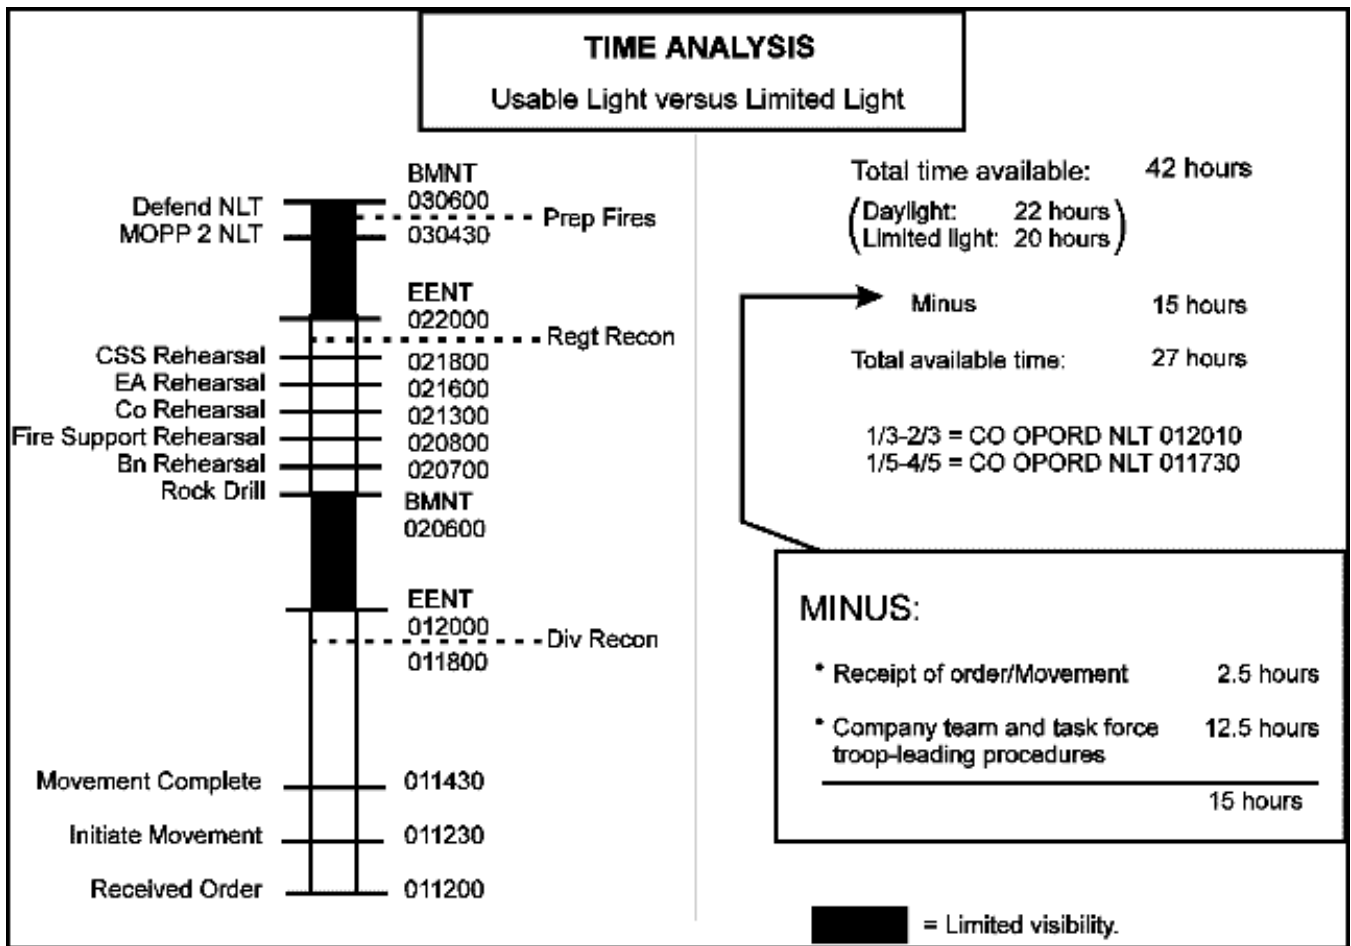

Figure 2-10. Use of time analysis to assess light conditions for an operation.
**Time analysis.** Identify the specific and implied times governing actions that must occur throughout the planning, preparation, and execution phases of the operation. Assess the impact of limited visibility conditions (including darkness) on the troop-leading process and other time-sensitive preparations for the company team and its subordinate elements. (**NOTE:** Figure 2-10 illustrates a method of analyzing usable light and limited light conditions.) Analyze the timing for the execution phase in terms of the terrain and enemy and friendly forces. Update previous timelines, listing all events that affect the company team and all subordinate elements.